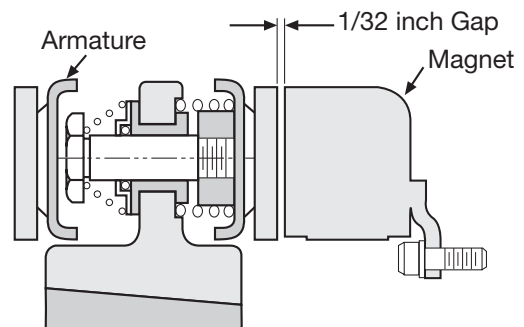

Figure 14
3. Place the face of the armature approximately 1/32" from the face of the magnet. Once this gap is set, it will be automatically maintained throughout the life of the unit. (Figure 14)